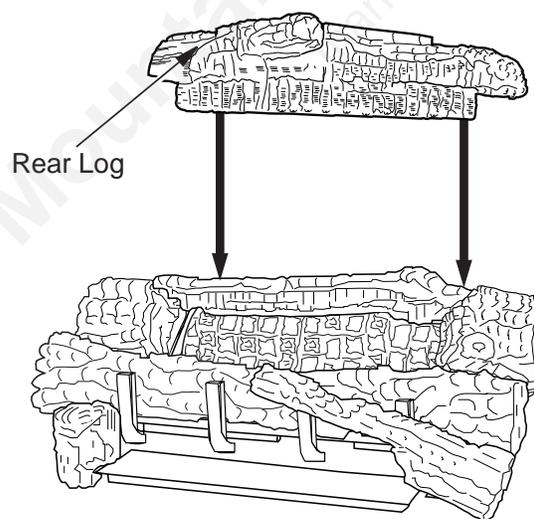

Figure 33 - Installing Rear Log
9. Rest the rear log (18" D-069, 24" & 30" D-043) on the chassis behind the rear burner as shown in **Figure 33**. The bottom of the rear log will sit into the rear log supports.